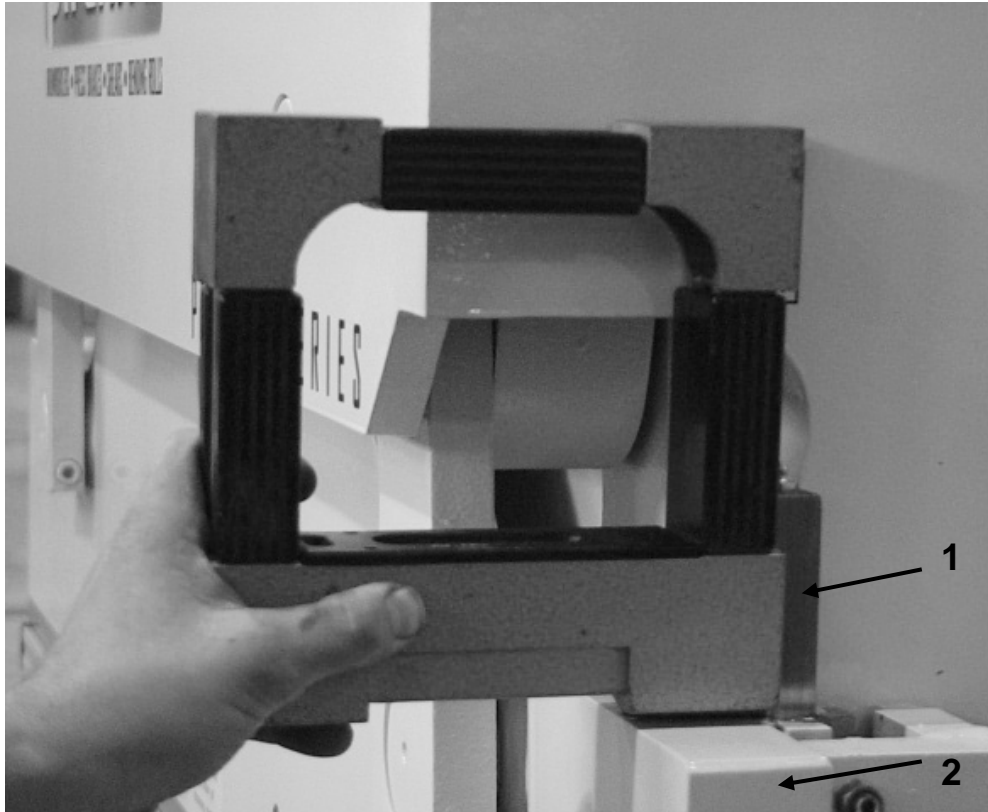

Figure 3: Precision Leveling Detail
3. Using a machinist square level having an accuracy of .0005" inch per foot graduation, place the level firmly against the front face of the right vertical ram slide as shown. (See Figure 3 Item1)